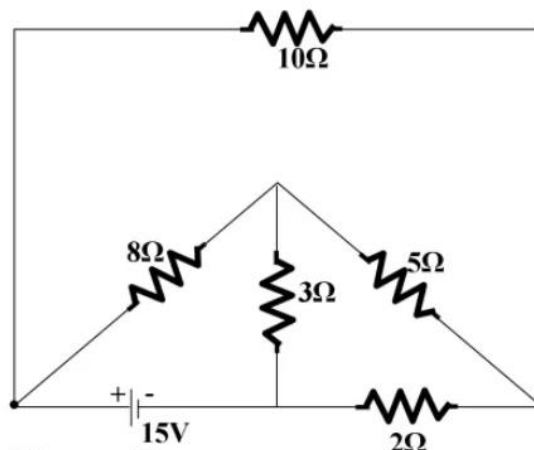

Figure 2
2. From figure2 shown below determine the power loss in the 10Ω resistor by using mesh method.